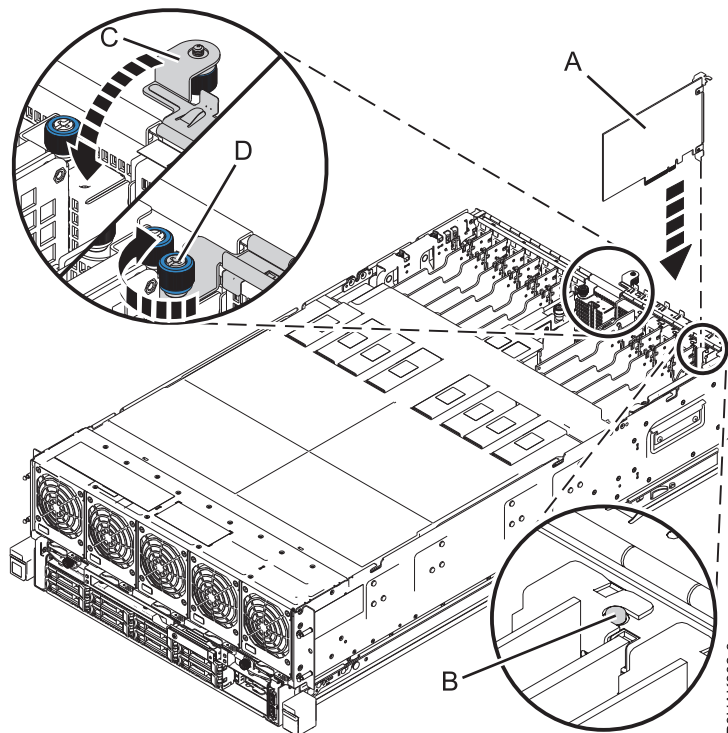

Figure 23. Installing or replacing a PCIe adapter in the 8408-44E or 8408-E8E system
7. Carefully grasp the adapter by its top edge or tailstock, and align the adapter with the slot and its connector on the system backplane (A), as shown in Figure 23.
9. Ensure that the tailstock notch engages with the pin on the system's chassis. See (B) in Figure 23.
10. Close the I/O retention bracket (C) by rotating it down and then tighten the captive thumbscrew (D) until it is secured to the system's chassis. See Figure 23.